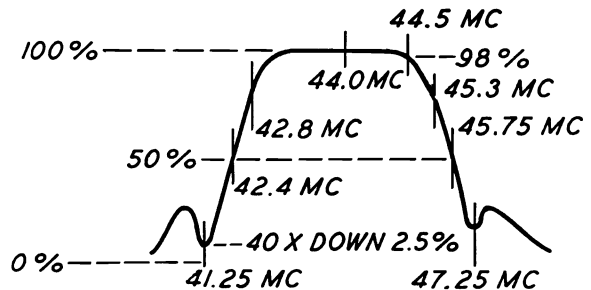

Fig. 6—Overall Response Curve
C. After these adjustments have been made recheck the peak to peak output on the oscilloscope. If the shape of the curve is not as shown in figure 6, it will be necessary to retouch the adjustments. A small fraction of a turn is all that is necessary if the strip is operating correctly. The position of the 44.5 Mc marker is critical (98%). The 44.0 Mc transformer (3rd I-F) controls the symmetry of the top. The 45.3 Mc transformer (2nd I-F) controls the height of the 45.75 Mc marker. The 42.8 Mc transformer (1st I-F) controls the height of the 42.4 Mc marker. This adjustment will very seldom need retouching.